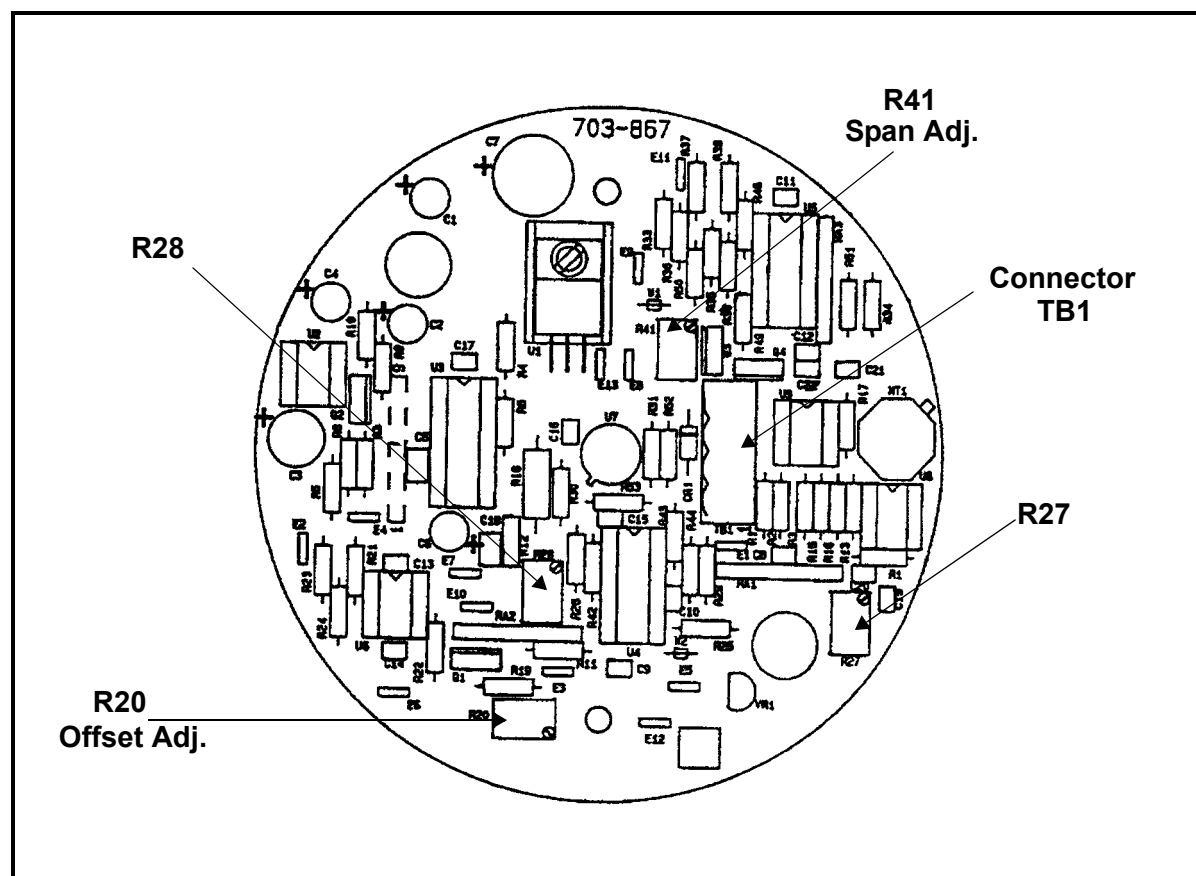

Figure F-2: PCB 703-867 Calibration Potentiometer Locations
1. Connect the current lead of the multimeter to TB1, Pin 3, and the return lead to TB1, Pin 2. Note that TB1 can be unplugged from the PCB for easy connections. See Figure F-2 on the next page for the location of TB1 and all adjustment pots.
1. Connect the current lead of the multimeter to TB1, Pin 3, and the return lead to TB1, Pin 2. Note that TB1 can be unplugged from the PCB for easy connections. See Figure F-2 on the previous page for the location of TB1 and all adjustment pots.